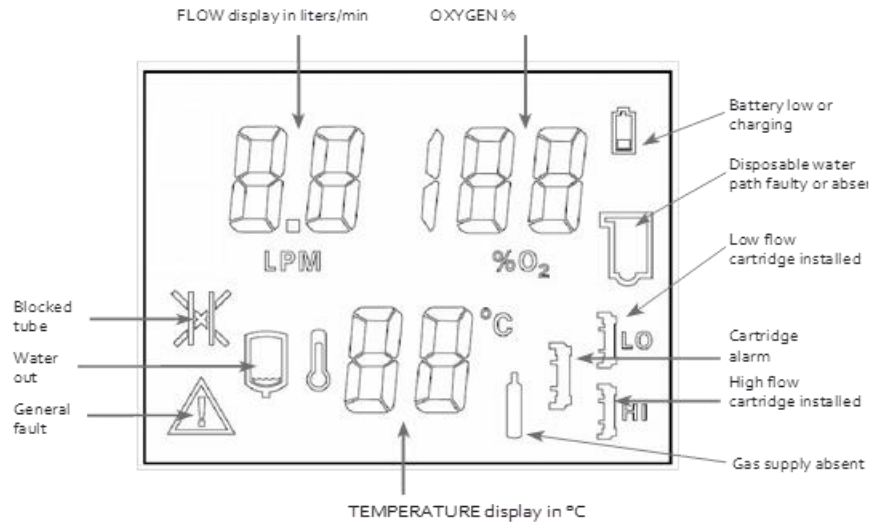

FIGURE 5.1
See Figure 5.1 for Icon Legend
4.7 Verify: <ul style="list-style-type: none"> <li>- Flow stops</li> <li>- O2% displays "--"</li> <li>- LPM displays 0.5 L/min</li> <li>- Medium priority alarm sounds</li> <li>- The gas tank icon flashes.</li> </ul> See Figure 5.1 for icon legend
4.9 Verify: <ul style="list-style-type: none"> <li>- The alarm clears</li> <li>- Flow and O2% are restored</li> <li>- The gas tank icon goes dark</li> </ul> See Figure 5.1 for icon legend
4.13 Verify: <ul style="list-style-type: none"> <li>- Flow stops</li> <li>- O2% displays "--"</li> <li>- LPM displays 0.5 L/min</li> <li>- Medium priority alarm sounds</li> <li>- The gas tank icon flashes.</li> </ul> See image in 4.7. and Figure 5.1 for icon legend
4.15 Verify: <ul style="list-style-type: none"> <li>- The alarm clears</li> <li>- Flow and O2% are restored</li> <li>- The gas tank icon goes dark</li> </ul> See Figure 5.1 for icon legend
<p>5.7 Verify:</p> <ul style="list-style-type: none"> <li>- Flow stops</li> <li>- The Medium priority alarm sounds</li> <li>- The occluded tube icon flashes.</li> </ul> <p>See Figure 5.1 for icon legend The precision Flow will attempt to restore flow every 3 seconds after an occlusion is detected. Remove the occlusion to avoid consecutive alarms.</p>